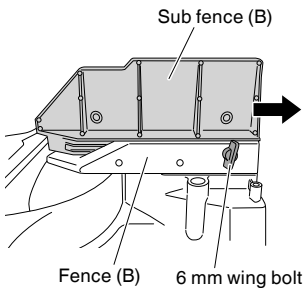

Fig. 13
This power tool is equipped with a sub fence (B). In the case of direct angle cutting and right bevel angle cutting, use the sub fence (B). Then, you can realize stable cutting of the material with a wide back face. When left angle cutting, loosen the 6 mm wing bolt, then slide the sub fence (B) outward, as shown in Fig. 13.
When changing the height of the 8 mm set screw, loosen the 6 mm wing bolt shown in Fig. 13, then slide the sub fence (B) outward and incline the motor head to the left.